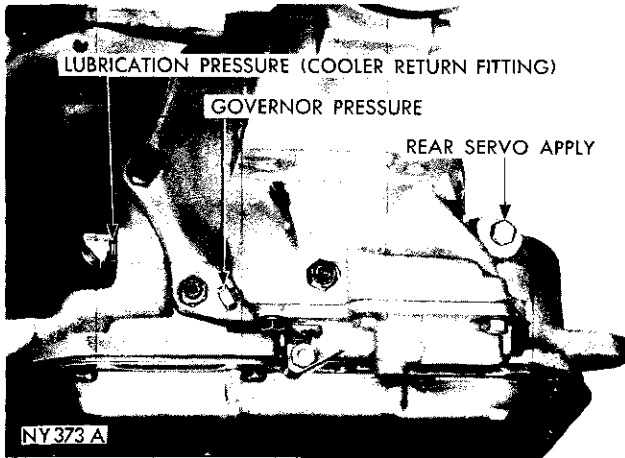

Fig. 27—Pressure Test Locations (Rear End of Case)
line fitting and fitting hole in the transmission case at rear of the left side of the transmission case (Fig. 27). Connect a 0-100 psi pressure gauge, Tool C-3292 to the "tee" fitting.
(1) Connect a 0-300 psi pressure gauge, Tool C-3293 to the apply pressure take-off point at the rear servo (Fig. 27).
(2) With the transmission control in R (reverse) position and the engine speed set at 1600 rpm, the reverse servo apply pressure should be 240-280 psi.
(1) Connect a 0-100 psi pressure gauge, Tool C-3292 to the governor pressure take-off point, located at lower left side of the extension near the mounting flange (Fig. 27).
(2) Governor pressures should fall within the limits given in the "Governor Pressure Chart."